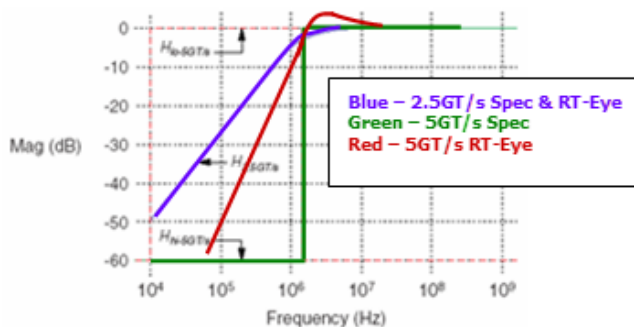

Figure 16: Clock recovery mask function in Rev2.0 base specification
- The clean clock selection is not available when Rev1.0a specification is selected. It is optional when Rev1.1 or Gen2 Specification is selected. It should be used when a clean reference clock is available. This is usually in the case while testing PHY components and Add-In cards. As defined in the base specification, if a clean clock is available, the clock recovery function to be used is a TIE filter function (Figure 16). For Rev1.1 this function is a 1st order (20dB/decade rolloff) with a corner frequency of 1.5 MHz. For Rev2.0, this function is specified as a ‘brick wall’ function with a transition from –60 dB to 0 dB at 1.5 MHz. The RT-Eye PCI Express compliance module implements a first order SW PLL, which is specified. For Rev2.0, a 2nd order PLL with .707 damping factor is used to approximate a brick wall function. The SW PLL BW is dependent on the edge density of the signal under test for which the algorithm assumes an edge density of 50%. If the edge density of the DUT were 50%, the PLL BW frequency would be set to correspond to the frequencies in Figure 16. However, for compliance testing, the transmitter is required to transmit the PCI Express Compliance Pattern that has an edge density of 75%. Thus the loop BW of the SW PLL is set to  $[(0.5/0.75) \times \text{specified frequency}]$ . This results in a PLL loop BW of 1 MHz. The loop BW of the SW PLL can be changed in the test point file. If the edge density of signal under test is different than 75%, the loop BW should be changed to be compliant with the specification. Refer to Section 9 for additional information on using Dynamic Test Points.